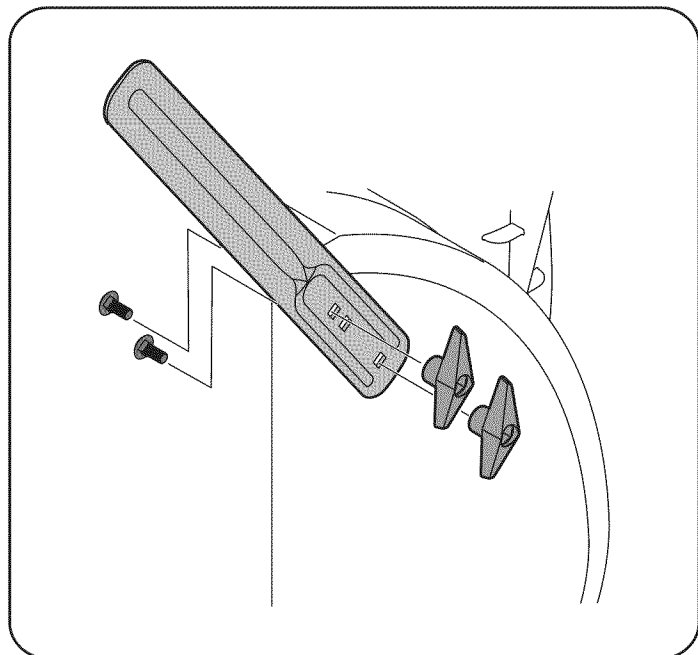

Figure 15
3. Attach the drift cutters with the screws and wing knobs on the outside of the auger housing as shown in Figure 15.